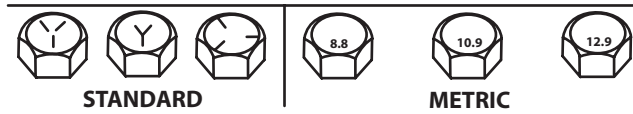

**Figure 2. Screw Threads**
2. Count the number of threads per inch (figure 2) or use a thread pitch gauge to determine the thread pitch.